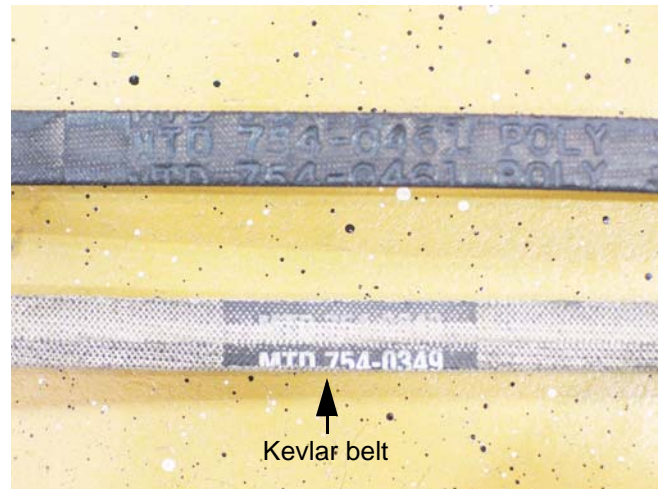

Figure 30.10
30.10. The belt for the G.T. models of the 1500 Series line is Kevlar wrapped. Substituting the poly-wrapped belt used on the L.T. models is not recommended, but the Kevlar belt is an acceptable premium upgrade for the L.T. tractors. See Figure 30.10.